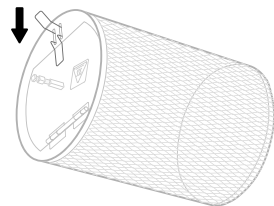

Figure 1.6
1. Press the wire latch to open the door on the side of the rotisserie basket. [Figure 1.6]